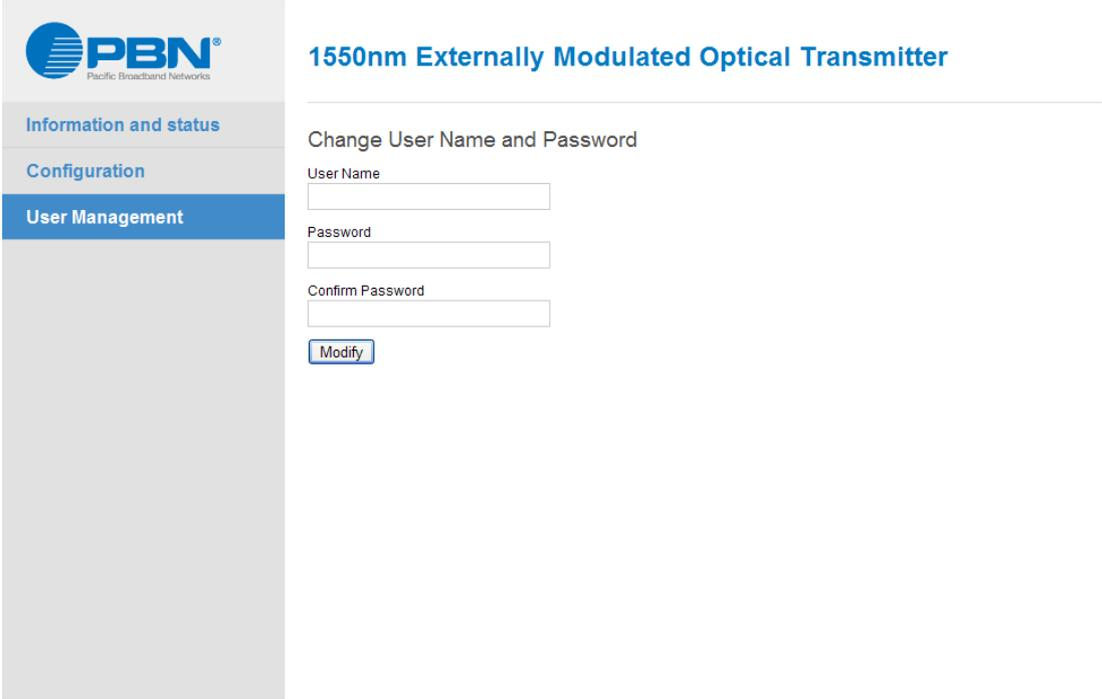

Figure 4-5 User Management Interface
3. Set Parameters interface (see Figure 4-5): reset the username and password in this interface.